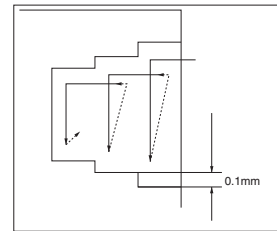

Fig.6
- 1) When widening the groove width, apply the “Step Turning” as shown in Fig. 6.